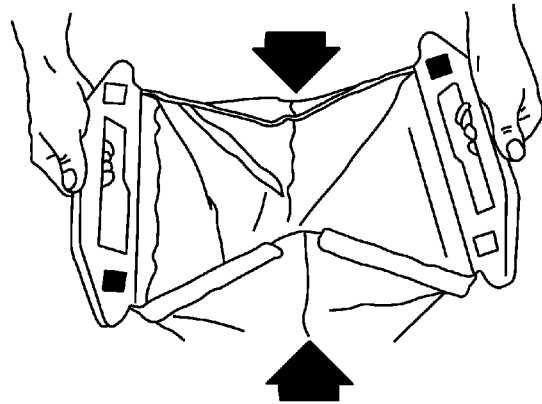

Figure 42
4. Close rear of bag by folding sides in and pressing interlocking rear handle halves together (Fig. 42).